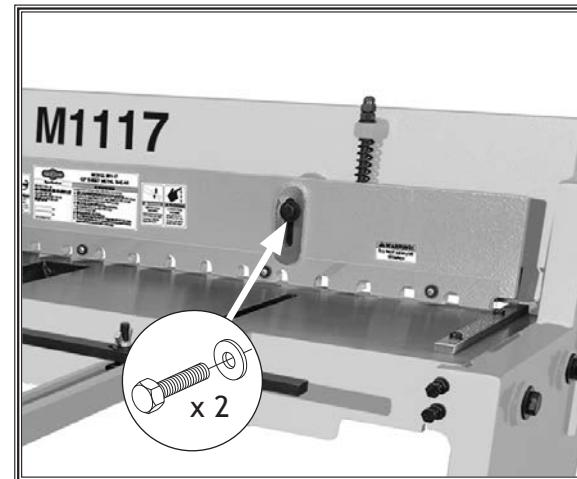

Figure 33. Location of blade guard hex bolts.
1. Loosen (2) blade guard hex bolts (see Figure 33).
3. Tighten (2) blade guard hex bolts to secure.